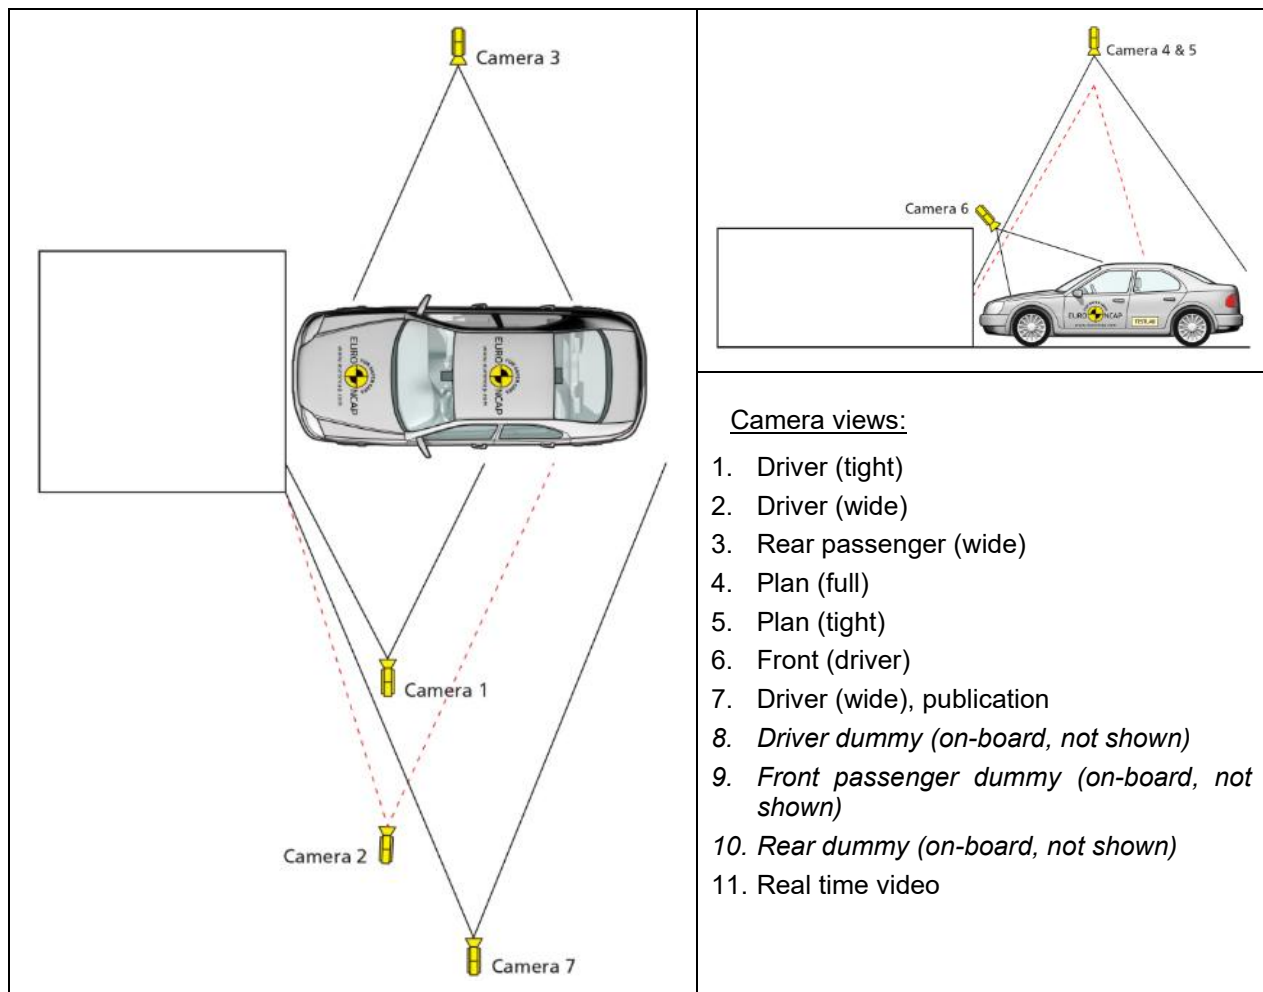

Figure 4: Locations for Cameras 1 to 7 (Frontal Full Width Rigid Barrier).
A total of 7 cameras views are required as indicated in Figure 4 below. In addition, two (2) onboard camera views are specified, for driver and rear passenger respectively and one real-time camera located on the block.